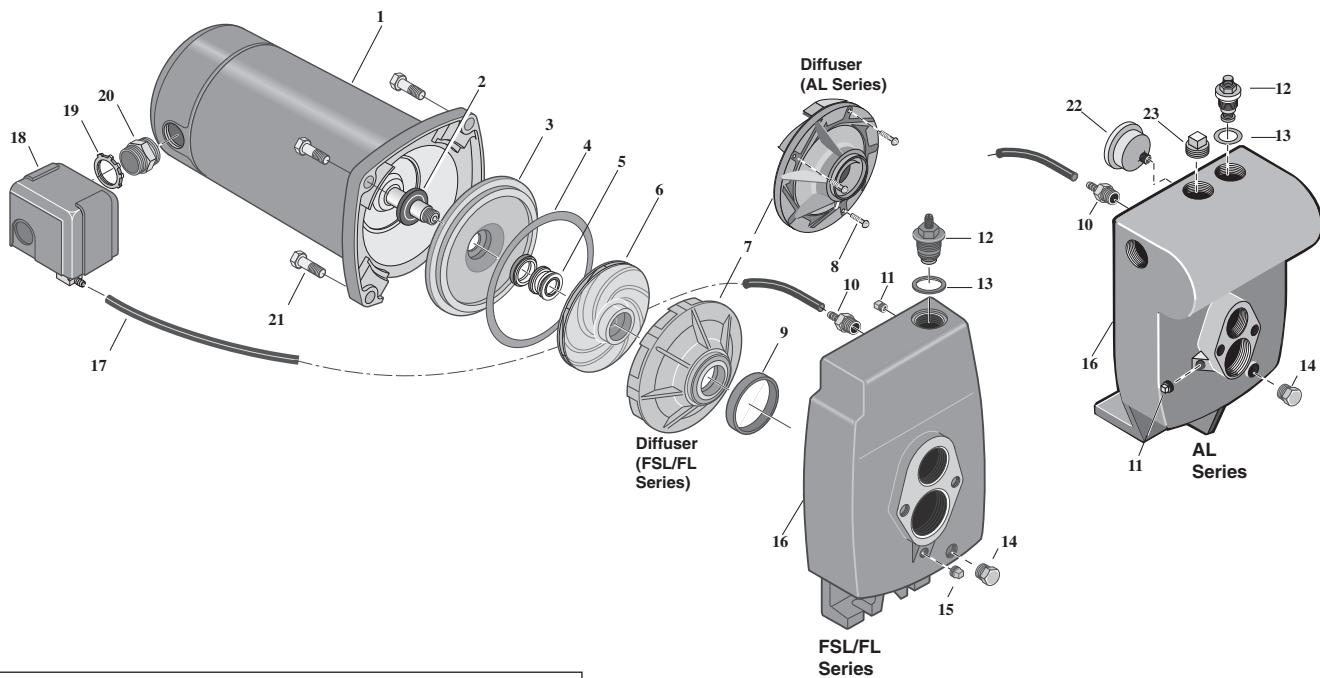

**Figure 15: Open Control Valve**
- Step 1. Open the control valve as far as possible (see Figure 15). Then remove the priming plug from the pump and fill the pump, fill all piping between the pump and the well, and make sure that all piping in the well is full. If you have also installed a priming tee in the suction piping, remove the plug from the tee and fill the suction piping.